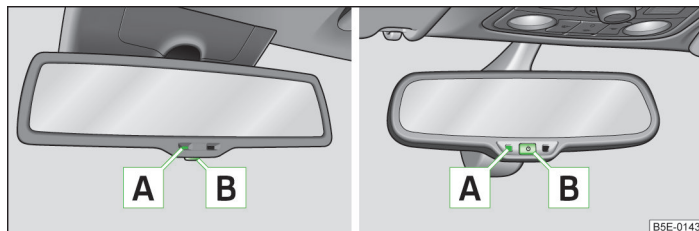

Fig. 44 Automatic dimming mirror
- Press the button , the warning light lights up (the mirror is activated) » Fig. 44.